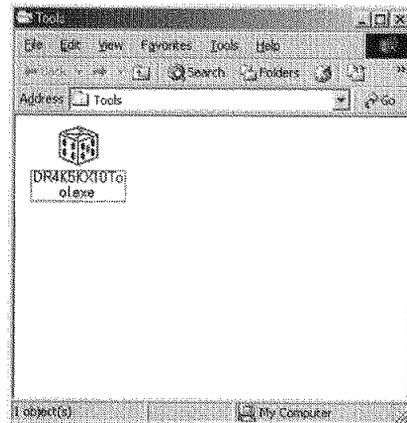

Figure 5-302
- 3) Open the installed "Tools" folder and start up the "DR4K5KX10Tool.exe" file. (See Figure 5-302.)